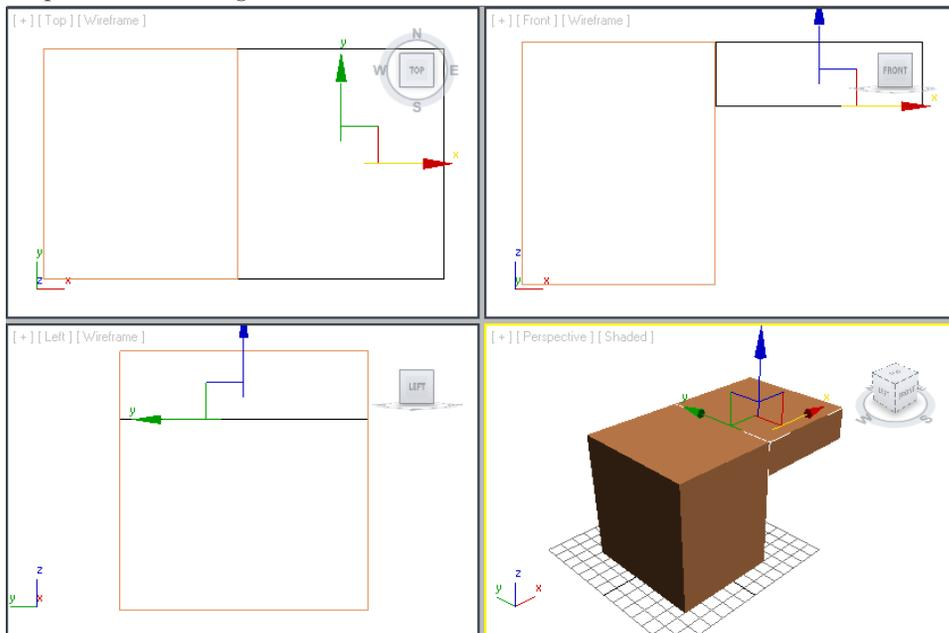

Figure 2-42 Alignment of left box with right box in viewports
- Choose the **Select and Move** tool and make sure *right box* is selected. Move *right box* along the X, Y, and Z axes in all viewports to align it with *left box*, as shown in Figure 2-42. Click in the viewport and press the Z key to view the box in all viewports, refer to Figure 2-42.